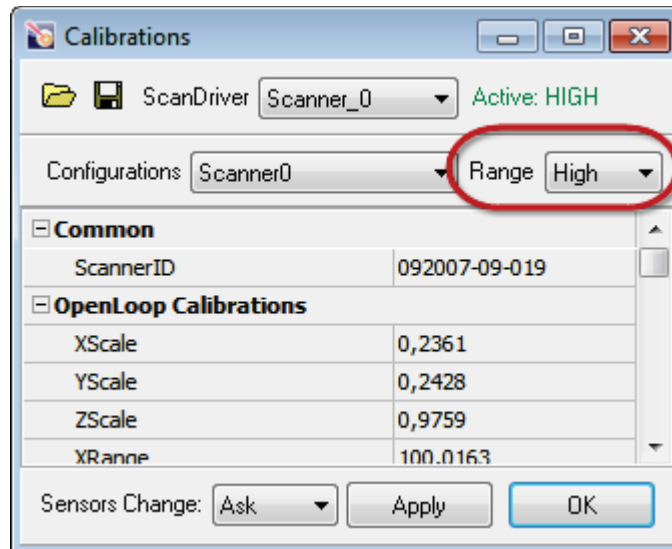

Fig. 7-10. Scanner operates in the high voltage mode
1. Open the **Calibrations** dialog box (see Fig. 7-10) by selecting the **Tools** → **Calibrations** menu command.